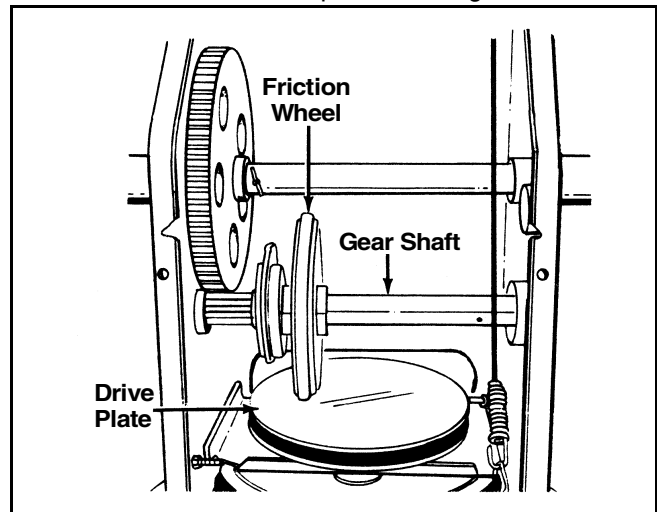

Figure 7
- With traction control engaged, the friction wheel must contact the drive plate. See Figure 7.